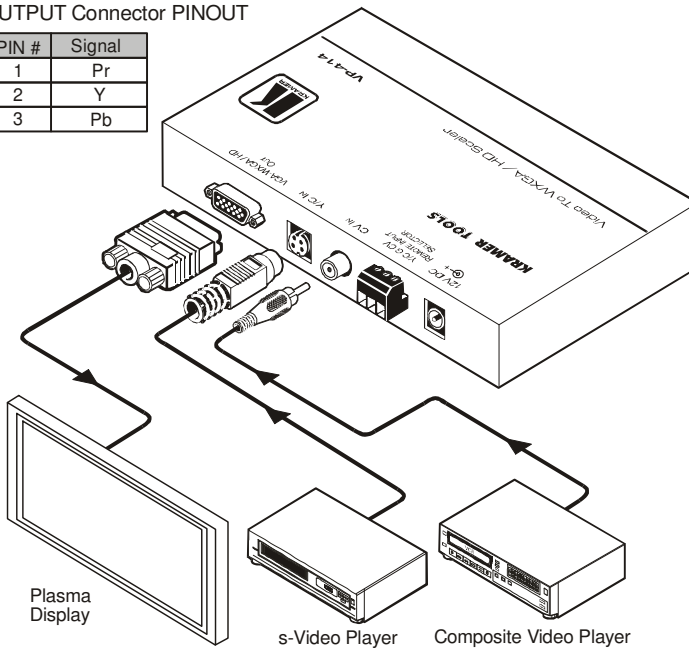

Figure 6: Connecting the VP-414
To connect the **VP-414**, as the example in Figure 6 illustrates, do the following¹:
3. Connect the 12V DC power adapter to the power socket and connect the adapter to the mains electricity (not shown in Figure 6).
4 The connection is not illustrated in Figure 6